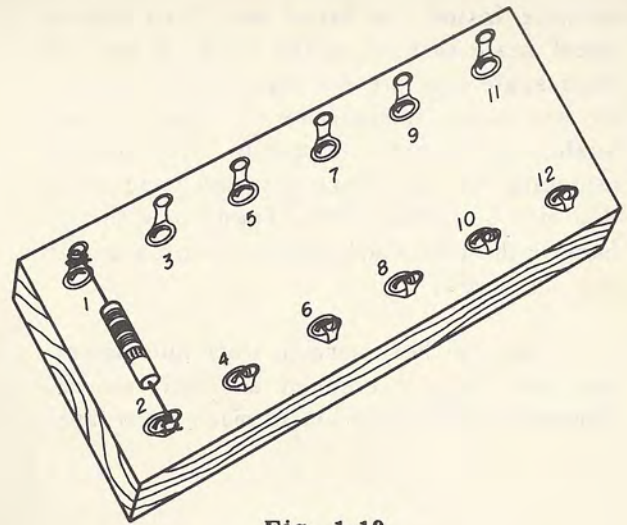

Fig. 1-19
Step 1. Mount the 100-ohm resistor on the breadboard between the first two lugs, as shown in Fig. 1-19. Be sure to make a good, tight joint. Then solder each resistor lead to its tie terminal.